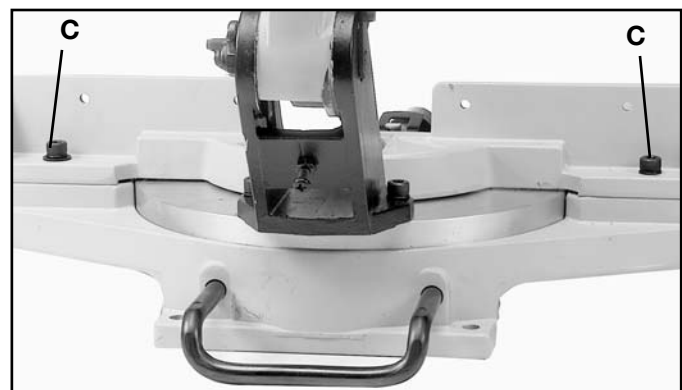

Fig. 22
4. If an adjustment is necessary, loosen the two screws (C) Fig. 22, and adjust fence 90 degrees to the table opening. Then tighten the two screws (C).